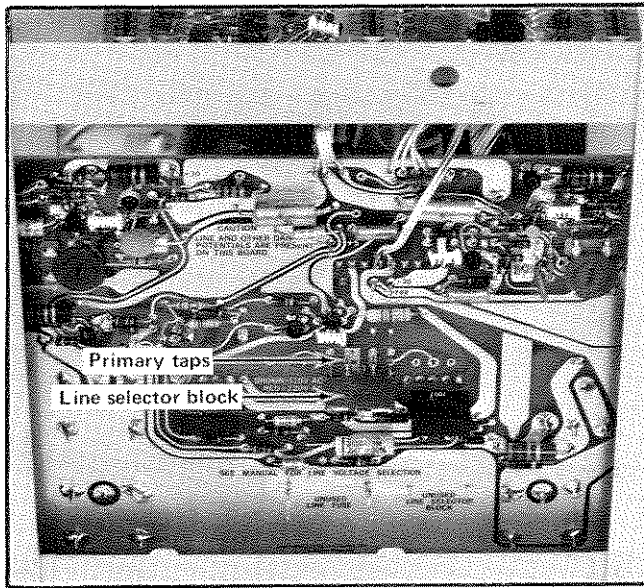

Fig. 2-1. Location of the line-selector block on the Power Supply circuit board.
3. Remove the brown line-selector block from the square-pin connectors (see Fig. 2-1) and place it on the desired set of pins (use pins marked H or M only). Select a range which is centered about the average line voltage to which the instrument is to be connected (see Table 2-1).
3. To convert from 115 volts to 230 volts nominal line voltage, or vice versa, remove the line-selector block from the square-pin connectors (see Fig. 2-1) and replace it with the other block. Remove the line fuse from the fuse holder located on the rear panel of the display module and replace it with one having the correct rating. The unused line-selector block and line fuse can be stored on the Power Supply circuit board. Change the line-cord power plug to match the power-source receptacle or use an adapter.